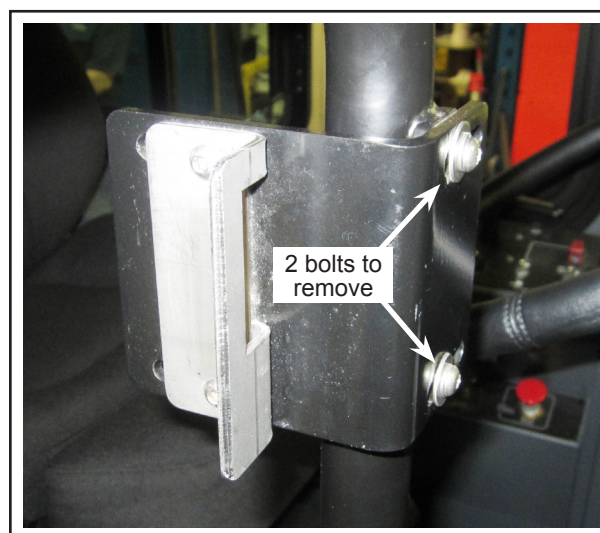

Figure 2 - Remove the Plate From the Handrail
- 1.2. Remove the plate from the handrail. Discard the hardware. See figure 2.